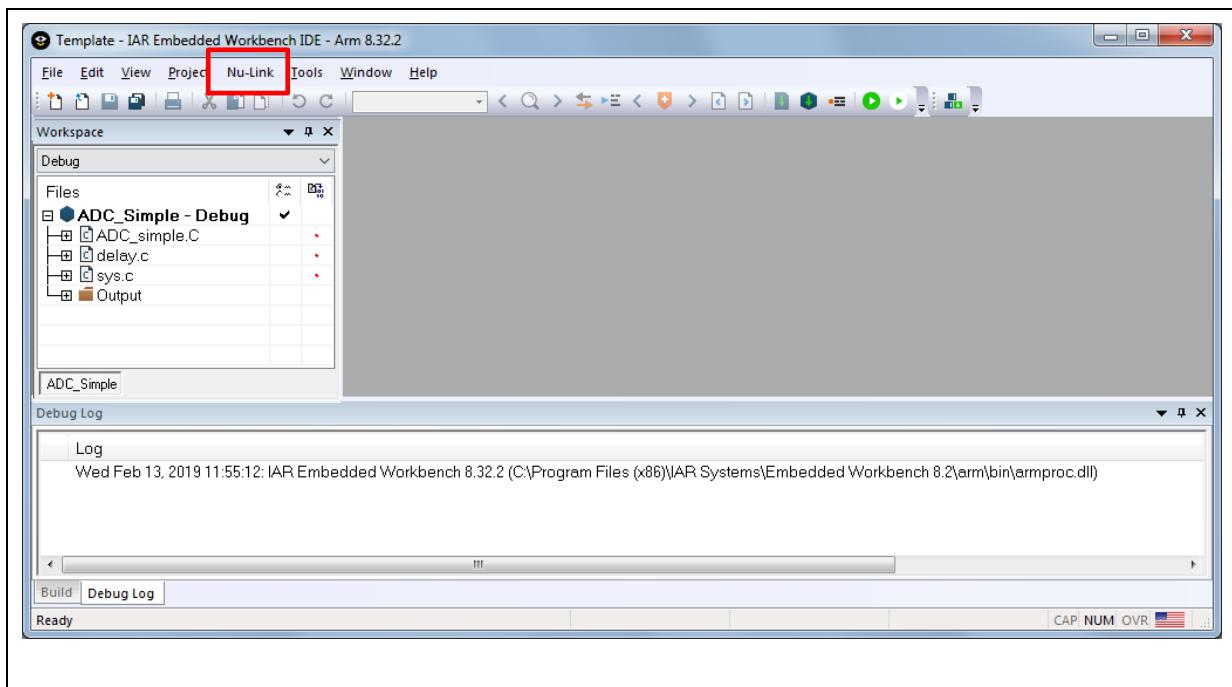

Figure 3.6-7 IAR EW8051 Window
2. Make sure the toolbar contain “Nu-Link” item as shown in Figure 3.6-7.